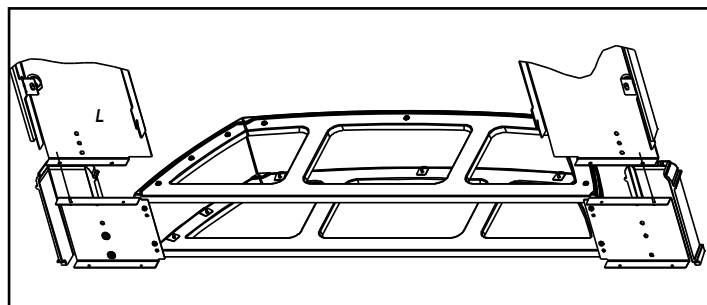

Figure 18.5
8. Place the assembled zero clearance trim support under the insert. **Figure 18.5.**